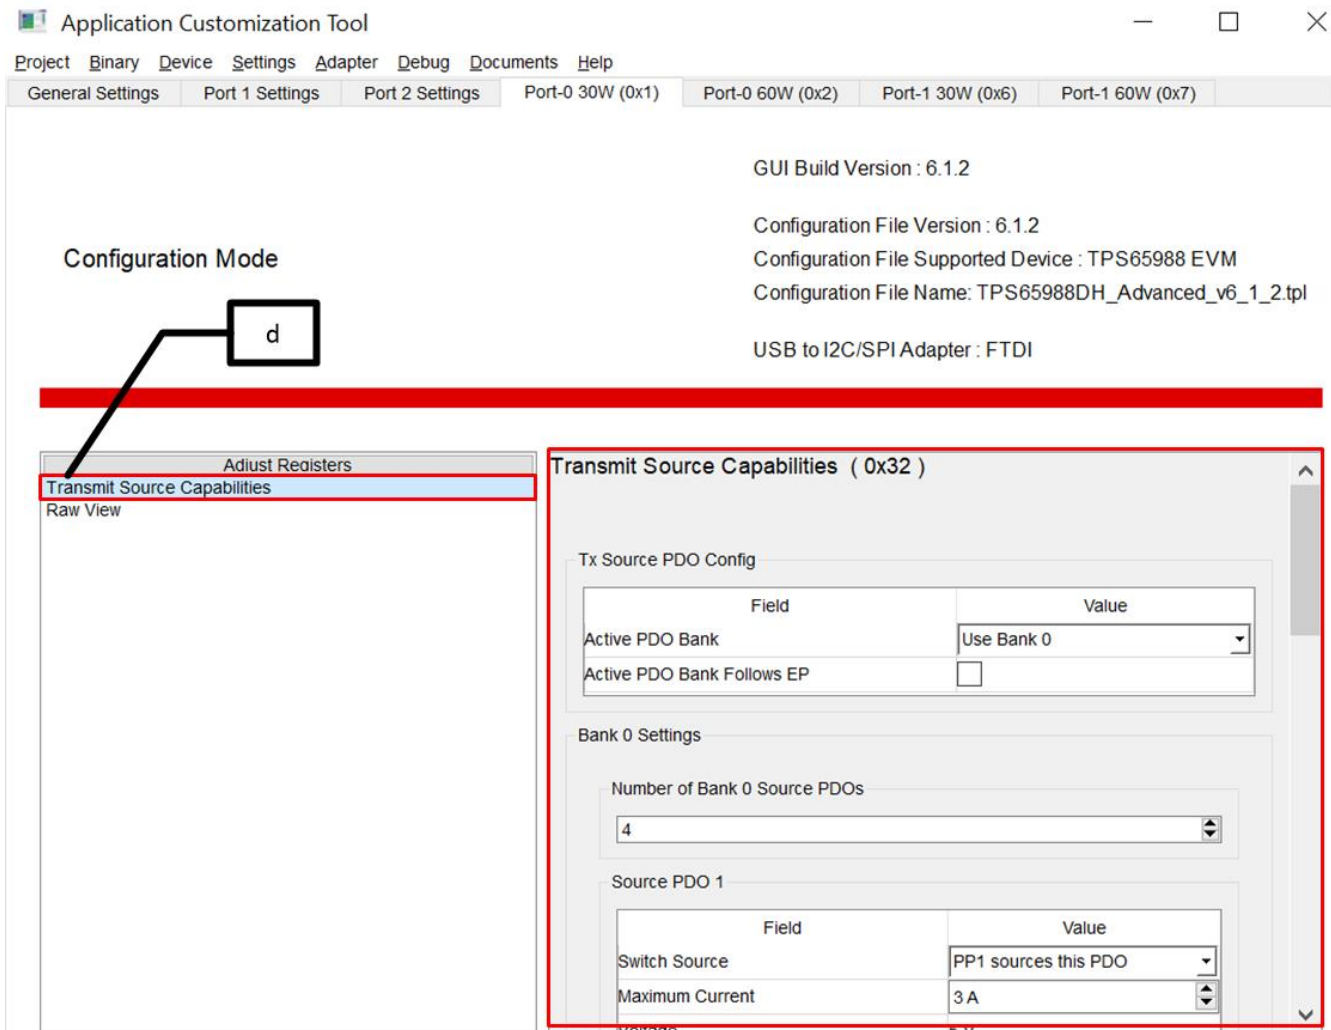

Figure 2-11. Configure Transmit Source Capabilities
- d. Click *Transmit Source Capabilities* and make entry for 30W PDO as shown in Figure 2-11.